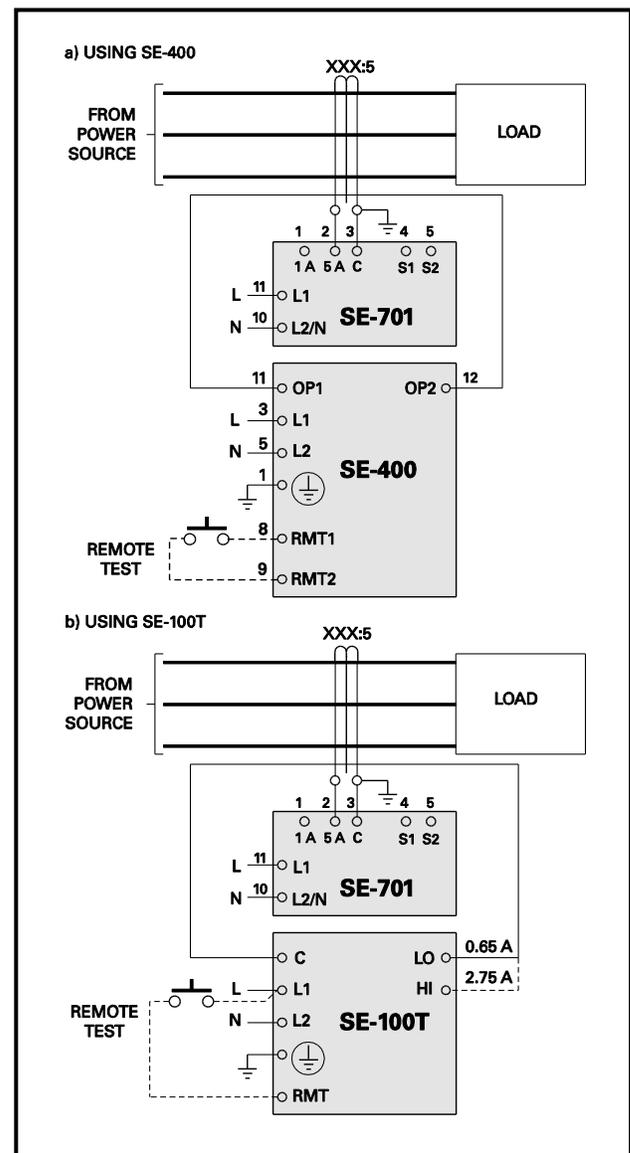

FIGURE 11. Ground-Fault-Test Circuits.
- d) Verify proper reaction of the circuit-interrupting device in response to a simulated or controlled ground-fault current. To simulate ground-fault current, use CT-primary current injection. Fig. 11 (a) shows a test circuit using an SE-400 Ground-Fault-Relay Test Unit. The SE-400 has a programmable output of 0.5 to 9.9 A for a duration of 0.1 to 9.9 seconds. Set the test current to 120% of the SE-701 setting. Fig. 11 (b) shows a test circuit using an SE-100T Ground-Fault-Relay Tester. The SE-100T provides a test current of 0.65 or 2.75 A for testing 0.5-and 2.0-A trip levels. Inject the test current through the current-sensor window for at least 2.5 seconds. Verify that the circuit under test has reacted properly. Correct any problems and re-test until the proper reaction is verified.